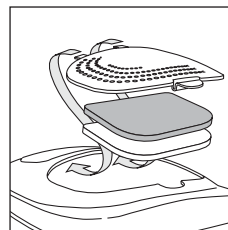

fig. 18
N.B: The white filter must rest on the metal part (fig. 18) and the coloured area must face upwards (towards the black filter).
Reassemble the filter cover, being careful to insert the front hooks correctly (as shown in fig. 18).